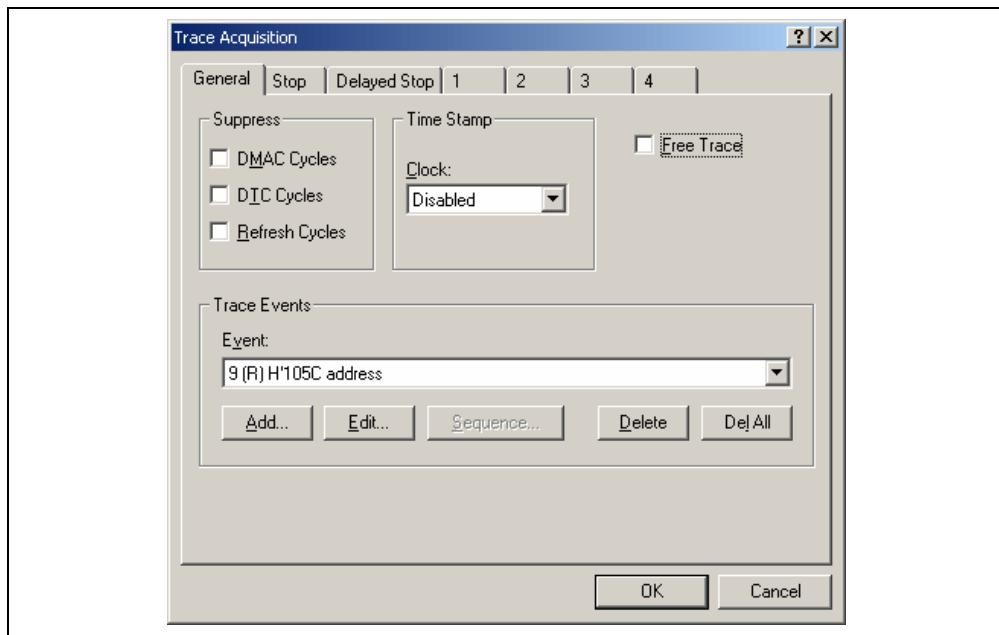

Figure 6.45 [Trace Acquisition] Dialog Box (Pages Added)
(7) To enable the event condition that has been set, uncheck the [Free Trace] check box on the [General] page. This will add pages [1] to [4] (see figure 6.45, [Trace Acquisition] dialog box).